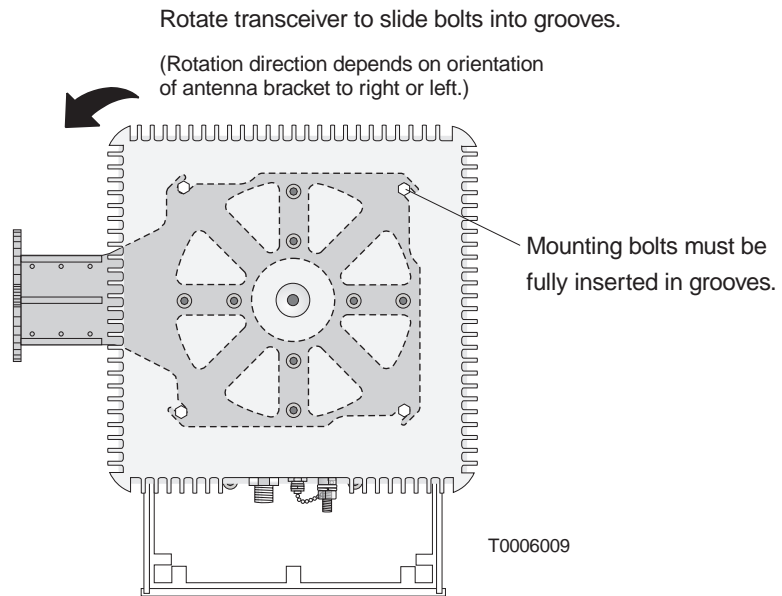

Figure 4-23 Transceiver (installed)
3. Rotate the transceiver, making sure the transceiver's mounting bolts slide into the grooves in the antenna bracket. (The direction of rotation depends on the orientation of the antenna bracket—to the right or left.) If the mounting bolts will not slide into the grooves, loosen the bolts. See figure 4-23.